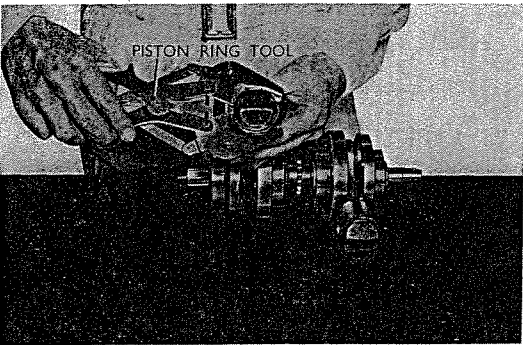

Fig. 3.96 1 D 2 D
2. When the piston pin is removed, attention should be directed so that the ring is not twisted. (Employment of the piston ring tool is recommended. (Refer to Fig. 3.96)